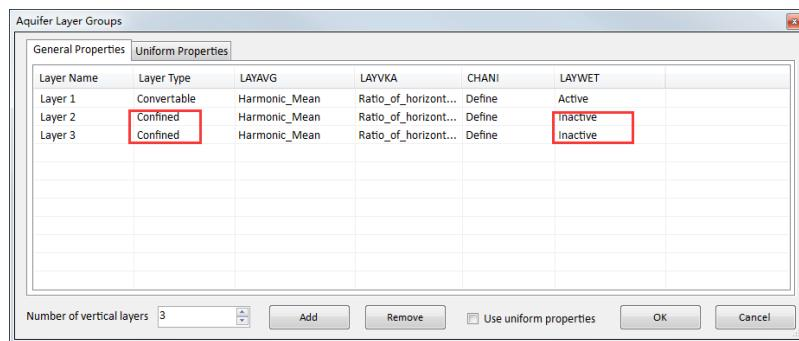

Figure 4-12. Setting aquifer layer properties
4. Set proper Layer Type and LAYWET by double-clicking corresponding cells for Layer 2 and Layer 3 (Figure 4-12):